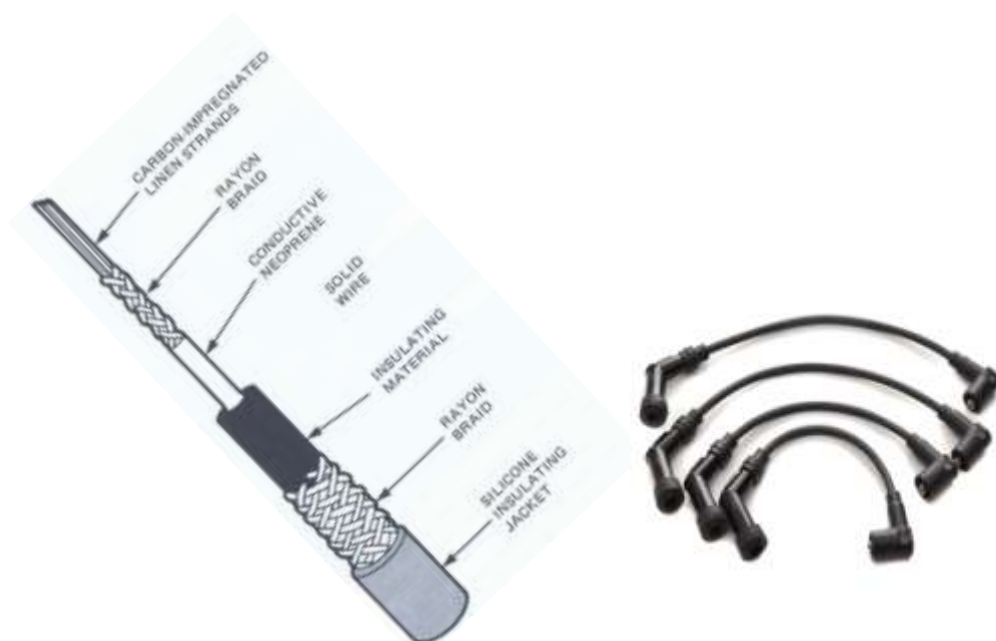

Figure 1.3-3 Spark plug cable construction
- **SECONDARY IGNITION CABLES** - The secondary cables or wiring include the coil wire and the spark-plug wires (**Fig 1.3-3**). These cables connect between the center of the ignition coil and the distributor cap, and between the distributor cap and the spark plugs. Secondary cables for contact-point ignition systems have a 7 mm (0.276 inch) diameter. Many electronic ignition systems require 8 mm (0.315 inch) cables. The use of a silicone insulating jacket makes these cables larger.